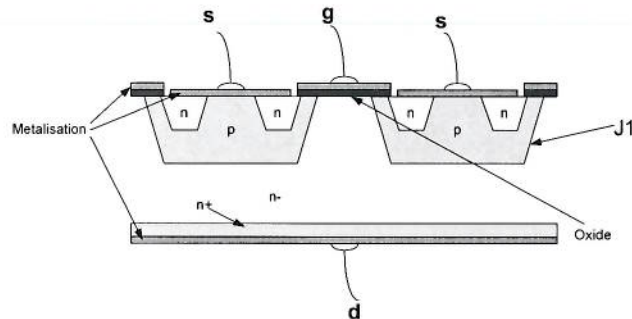
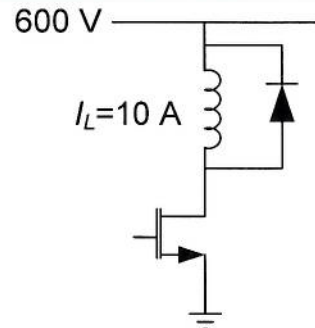

Figure 4.1 Cross section through power MOSFET
Figure 4.2 Diode clamped inductive load circuit
4. Figure Q4.1 shows a cross section through a double-diffused power MOSFET, Figure 4.2 shows a MOSFET switching a diode clamped inductive load.
- b) With reference to Figure 4.1 and using an equivalent circuit diagram of a power MOSFET, explain why the rate of rise of the drain-source voltage is limited when the device turns off. [5]
- c) The MOSFET used in the circuit of Figure 4.2 has an intrinsic  $dv/dt$  limit at turn-off of 20 V/ns due to the device internal structure. However, in order to comply with EMC requirements, it is necessary to reduce the value of  $dv/dt$  to 10 V/ns. Design a suitable turn-off snubber circuit applied to Figure 4.2 in order to limit  $dv/dt$  to 10 V/ns. [5]
- d) A designer is considering changing the MOSFET used in the circuit of Figure 4.2. In the proposed replacement device, the per-cell capacitance of junction J1 (Figure 4.1) is 10 pF and the equivalent resistance of the p diffusion between the source metallisation and J1 is 10  $\Omega$ . In order to comply with the maximum  $dv/dt$  limit of 10 V/ns set by EMC requirements, does this device require a snubber? [6]